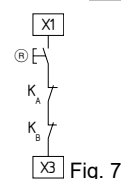

Fig. 7
**External reset button (without edge detection) (see Fig. 7)**